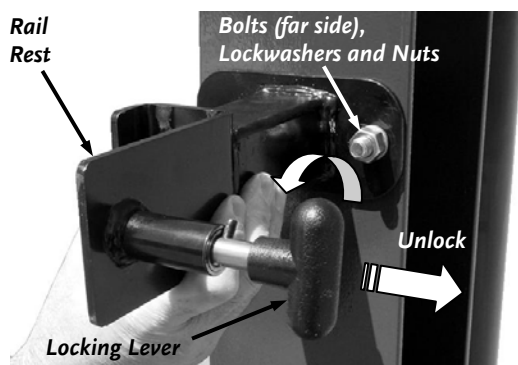

Figure 11
8. Only hand tighten the nuts as you bolt the rail rest to the rail assembly using two 1/2-13 x 1-1/2 inch long hex head bolts, lock Washers, and nuts (**Figure 11**).